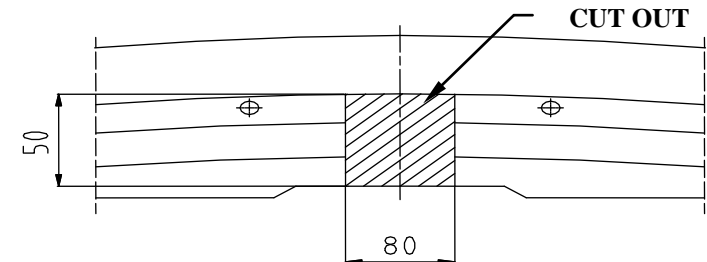

Fig.2.
3. In maked holes put sleevesi $\varnothing 17$ mm (pos. 8), length = 73 mm.
4. To rear side put base bar of towbar (pos. 1) in that way, so holes pos. A agree to holes for unscrewed reinforcement and screw using bolts M8x35mm (loosely) – pos. 13.
5. Elements (pos. 4 and 5) put to chassis members and rear side and screw using bolts M10x110 mm (pos. 11) and M10x35mm (pos. 12).
6. Assemble masking cover and bumper after cut his fragment 80x50mm – see fig. 2.